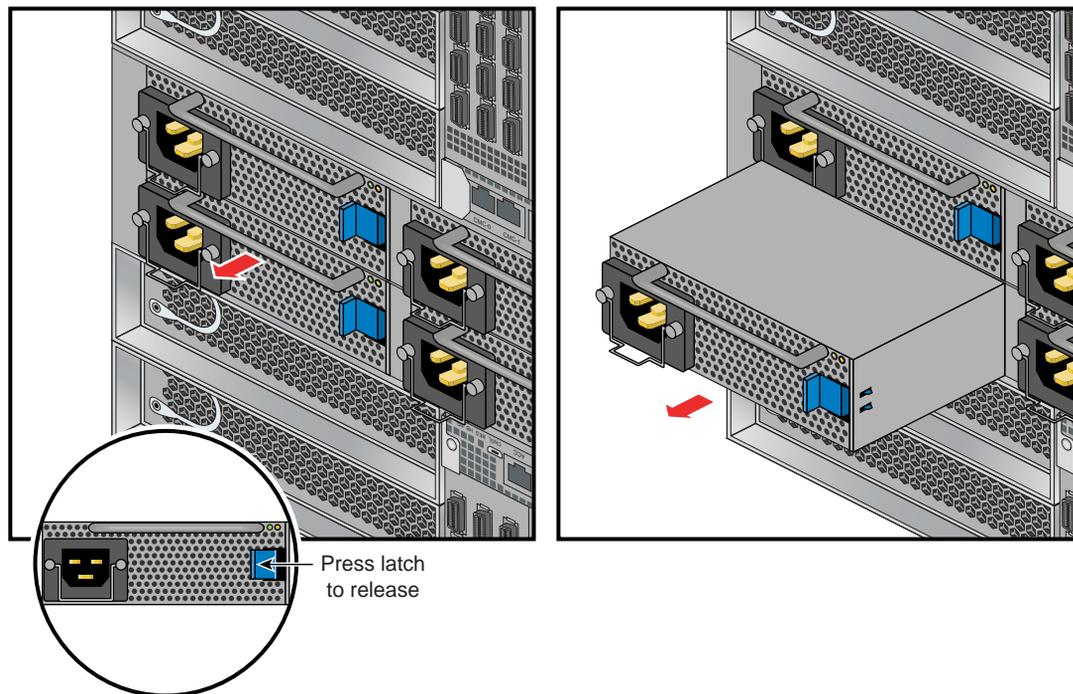

Figure 7-1 Removing an Enclosure Power Supply
3. Press the retention latch of the power supply toward the power connector to release the supply from the enclosure, see Figure 7-1 on page 70.